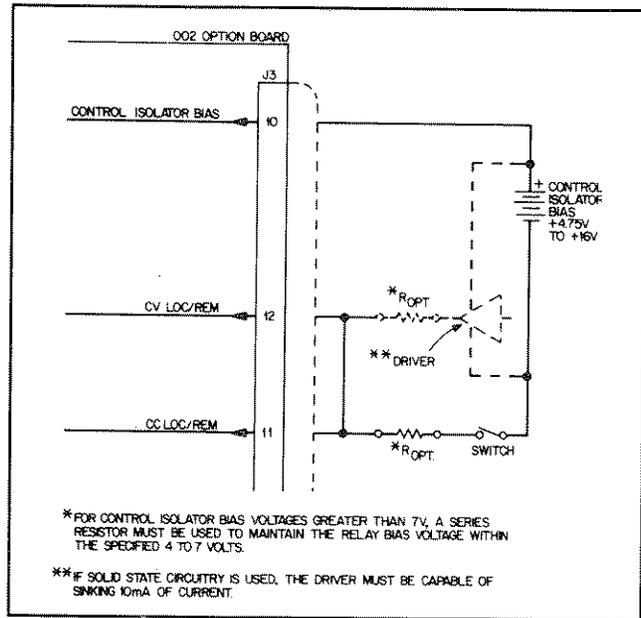
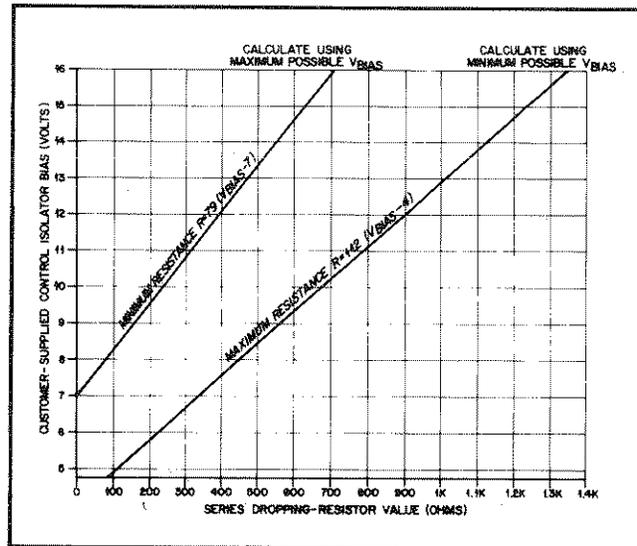

Figure A-3. Accessing Local Programming while in Remote Programming Mode
Figure A-4. Calculating Value of Series Dropping Resistor
A-21 Local Programming (Figure A-3). The supply can be switched back and forth between remote and local programming while initially checking out a remote programming circuit. For proper operation of local programming, the user must supply the bias voltage (CONTROL ISOLATOR BIAS). The Control Isolator Bias voltage can range from +4.75 V to +16 V depending upon the user's interface circuits. Refer to Specifications Table A-1. For local programming, take the Control Isolator Bias common and connect it to both of the LOC/REM terminals, and position mode switch as indicated in paragraph A-19.
Although CONTROL ISOLATOR BIAS can be +4.75 V to +16 V, a supply voltage of more than 7 V may damage the relays. Therefore, if CONTROL ISOLATOR BIAS exceeds 7 V it is necessary to use a resistor in series with each of the LOC/REM terminals. Figure A-4 provides a graph
from which the proper series resistance value can be determined. Note that the tolerances of both the Control Isolator Bias and the resistor must be taken into account. The actual Control Bias used in Figure A-4 is obtained after subtracting any driver gate voltage drop.
If solid state circuitry is used, connect the Control Isolator Bias to a driver capable of sinking 10 mA of current, then connect the driver's output to both of the LOC/REM terminals. Refer to figure A-3. Either method will enable relays K1 (CV) and K2 (CC) to switch regulation to the front panel VOLTAGE and CURRENT controls. For Control Isolator Bias voltages greater than 7 V, a resistor (R_{opt}) must be used in series with the Control Isolator Bias common or the Driver's output. Figure A-4 pro-